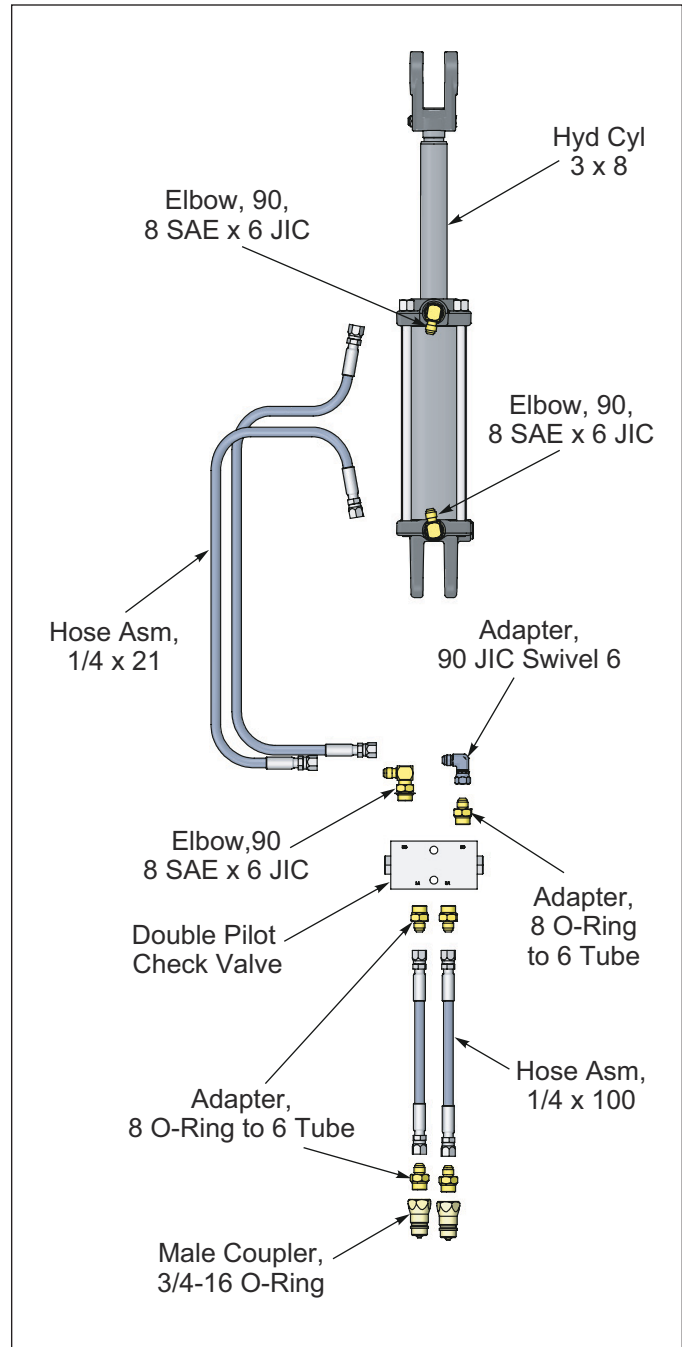

Figure 2-10: Drawbar w/ Hydraulic Jack Schematic
6. Install Double Pilot Check Valve Fittings. **See Figure 2-10.**